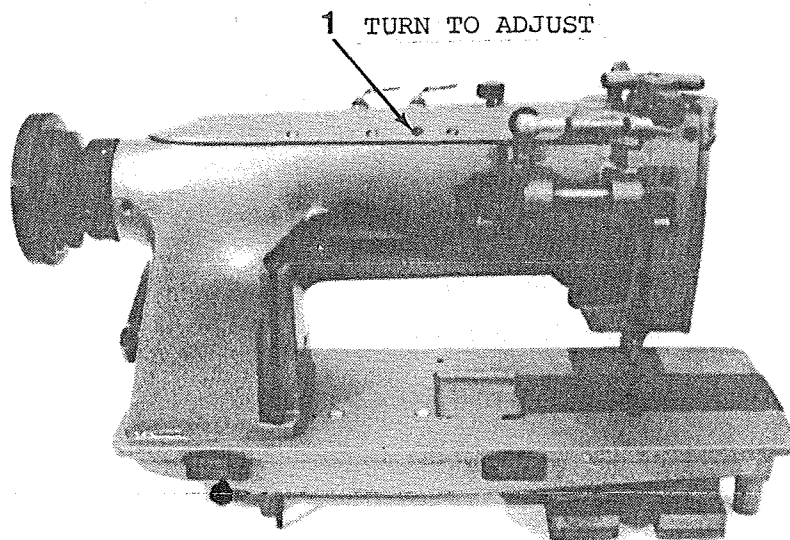
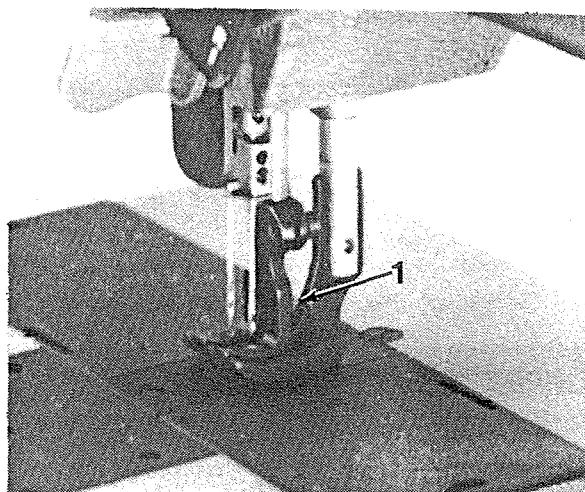
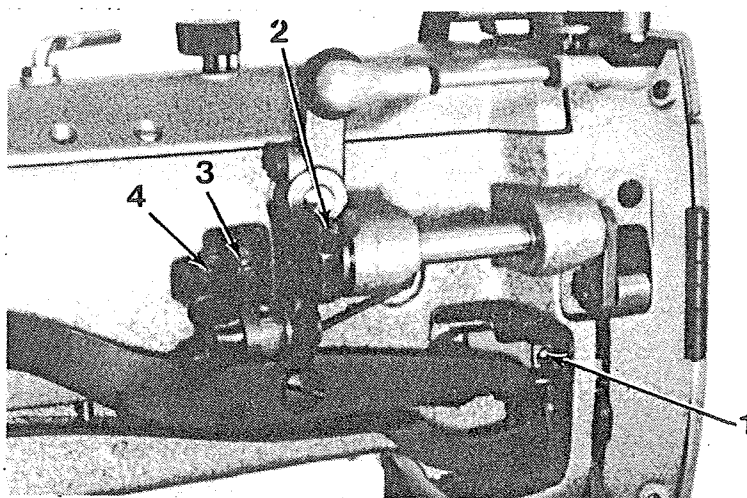

FIG. 17
Fig. 33
FIG. 34
PRESSURE ON MATERIAL (Fig. 17)
Pressure is regulated by screw (1) shown in Fig. 17 at rear of machine arm. Turn screw clockwise to increase pressure or counter-clockwise to decrease pressure.
ADJUSTING THE HEIGHT OF THE PRESSER FEET (Fig. 17,33,34)
Loosen the screw (1, Fig. 17), raise the presser bar lifter and loosen the set screw (1, Fig. 34)
Descend the presser bar lifter, holding the vibrating presser foot (1, Fig. 33), loosen the hexagon screw (2, Fig. 34), move the presser foot up or down as may be required. Tighten the screw securely.
TIMING OF THE VIBRATING PRESSER FOOT (Fig. 34)
To adjust this, set the lift of alternating presser feet to equal, loosen the screw (3, Fig. 34) and adjust the rotating position of the cam (4, Fig. 34) faster or slower as desired, tighten the screw.